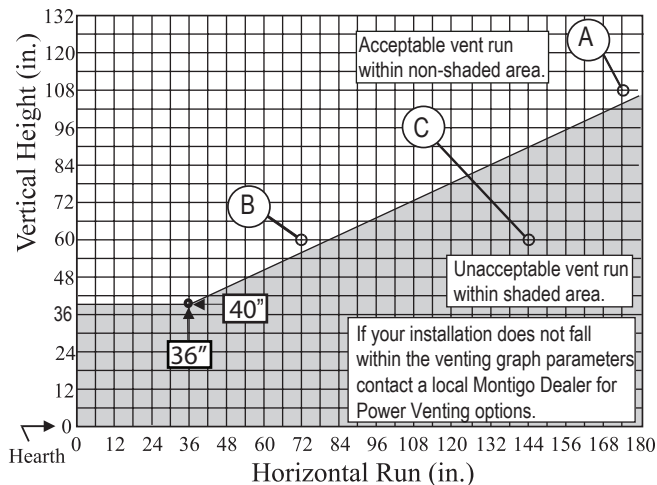

Figure 13. L52DF\* Top Vent Venting Graph for wall mounted terminations.
- Once the proposed venting layout has been determined refer to Figure 13 or 15 to ensure the layout is acceptable.
- Venting runs must fall within the limits set by the venting graph, see Figure 13.
Measure the vertical height from the fireplace hearth to the centre of the termination and the horizontal run from the fireplace flue collar to the wall flange of the termination. Plot on the Venting Graph Figure 13 with an 'X'.
Figure 13a. Top Vented, wall mounted installation with one 90° bend. The vent run must comply with Venting Graph for Top vent, wall mounted terminations, Figure 13.